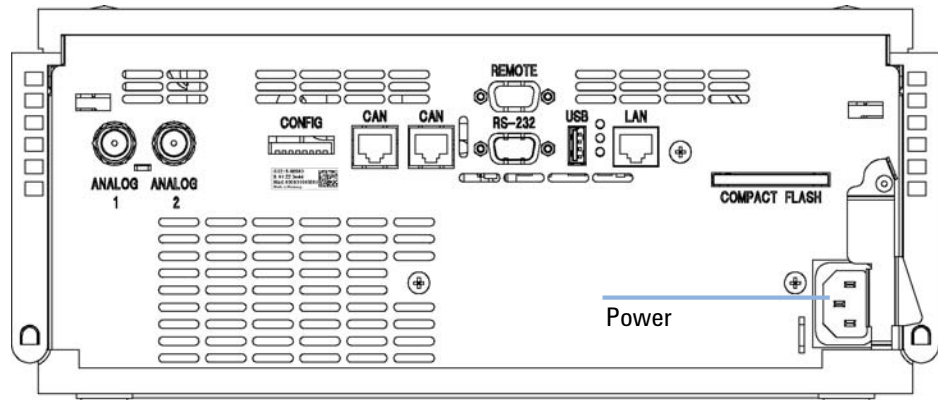

Figure 9 Rear View of Detector
- 1 Note the MAC address of the LAN interface (rear of the module, under the configuration switch, see Figure 9 on page 49). It's required for "LAN Configuration" on page 261.